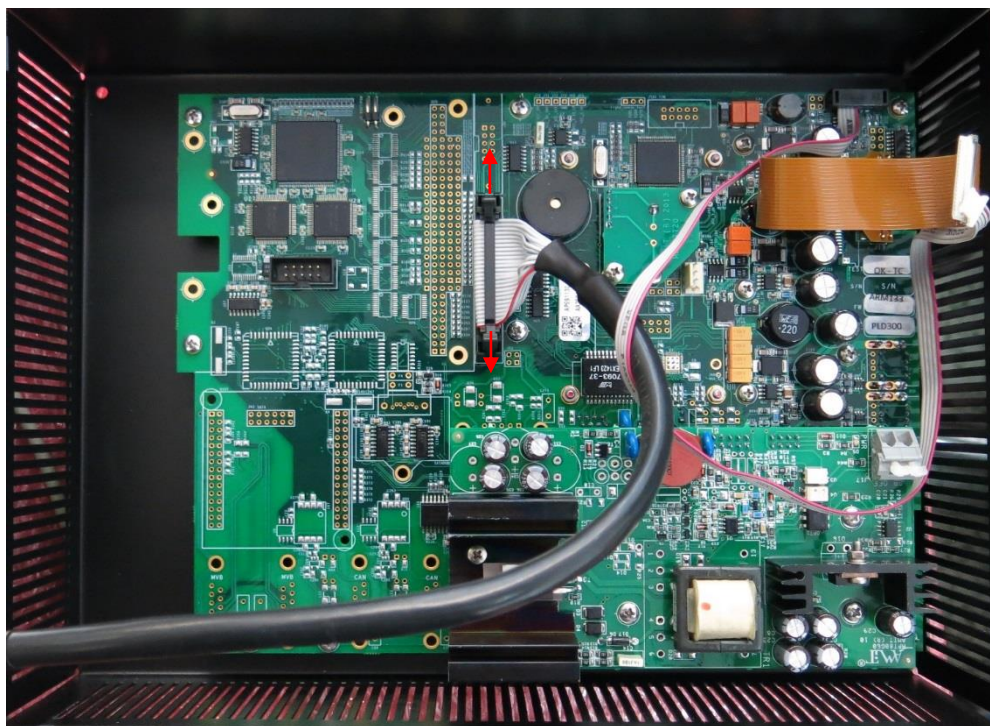

Fig. 4 - Disconnecting of remaining cables
3. Carefully separate panel from the cover with electronics and disconnect remaining 26-wire cable. Connector can be removed only when safety levers on a counterpart connector are unlocked, see Fig. 4.